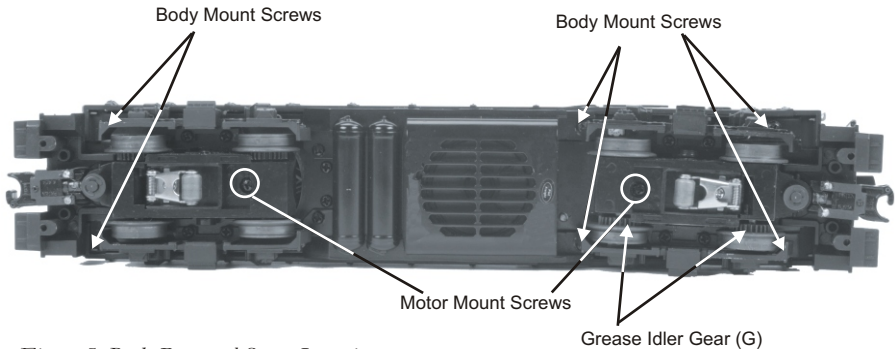
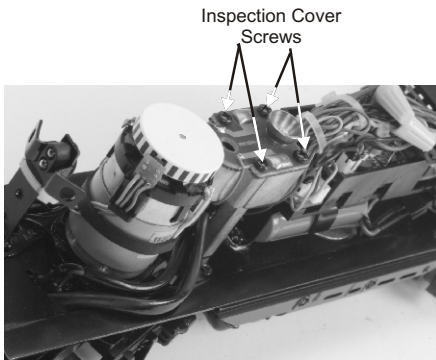

Figure 5. Body Removal Screw Locations
Figure 8. Inspecting the Smoke Unit Wick
1. To access the gear box, remove the cab from the chassis by unscrewing the body mount screws as seen in Figure 5 and lifting the cab from the chassis.
2. Once the cab is removed, remove the trucks by unscrewing the black Phillips motor mount screw located on the underside of the drive trucks (see Figure 5).
If you experience poor or no smoke output when the smoke unit is on and has fluid, check the wick to see if it has become hard, blackened, and unabsorbent around the heating element. After removing the locomotive body from its chassis (See Figure 5), remove the smoke unit inspection cover (see Figure 8). After removing the inspection cover screws, lift the inspection plate away and inspect the wick. If it is darkly discolored and hard, it should be replaced.